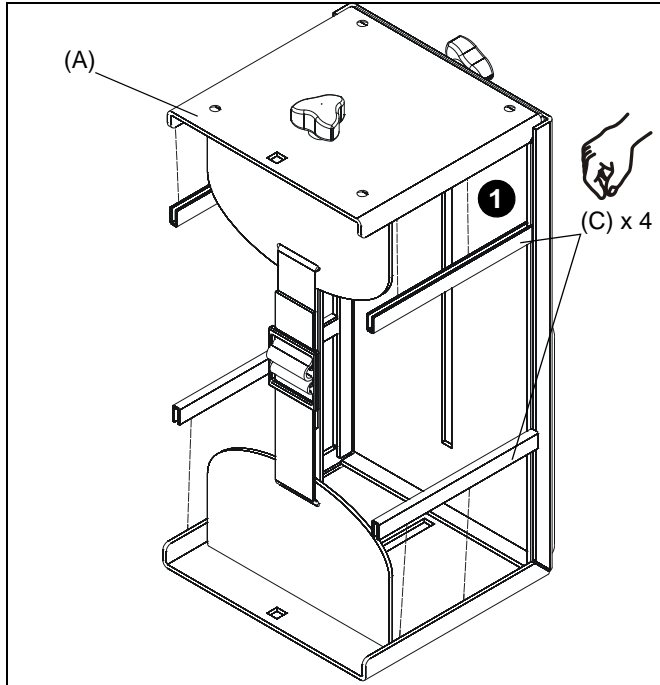

Figure 1
1. Place four strips of protective rubber edging (C) over the sharp edges located on the top and bottom of the mount (A). (See Figure 1)